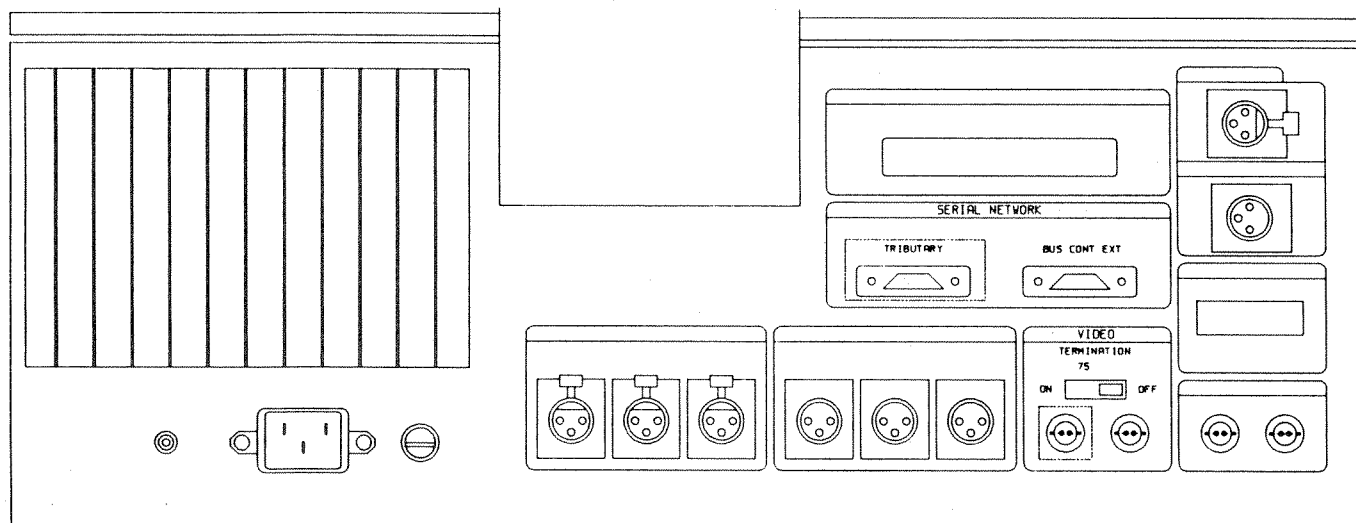

Figure 1. Rear Panel Connectors
1. The Editor must be connected to the **APR-5003V** via the **TRIBUTARY** serial port on the rear panel of the machine. (See Figure 1.)